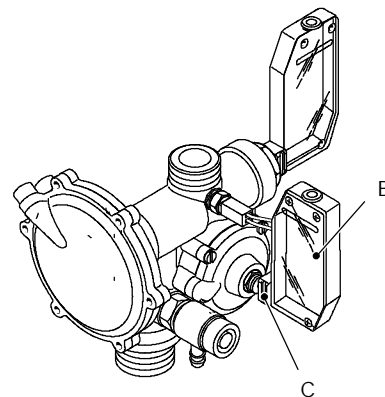

fig. 64
As a consequence of any one of these causes the main circuit flow switch cuts – off an electric circuit by means of a microswitch (B in fig. 64) installed on it.
- 2 Remove the fork C that holds the main circuit flow switch B (fig. 64).
- 2 Remove the fork *E* that holds the main circuit flow switch *B* (fig. 64).
- 2 Remove the fork *C* that holds the switch placed on the valve and remove the switch (fig. 64).